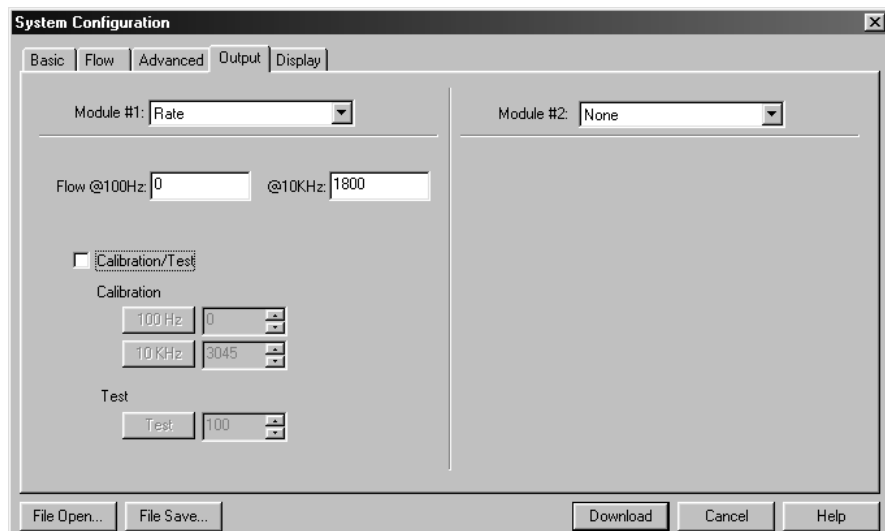

Figure 3.6
4. Output TAB — See Figure 3.6